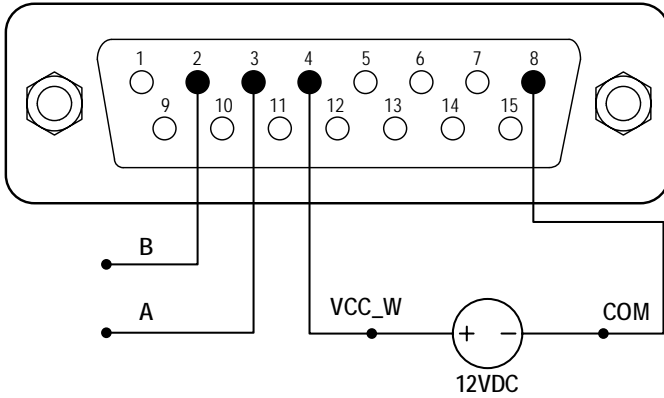

Figure 53. RS485 MODBUS Wiring
- 1) Turn the power off. Wire the DB15 connector as shown in Figure 53, and connect it to the DB15 port on the rear of the pump. An external DC power source is recommended to avoid electrical interference.